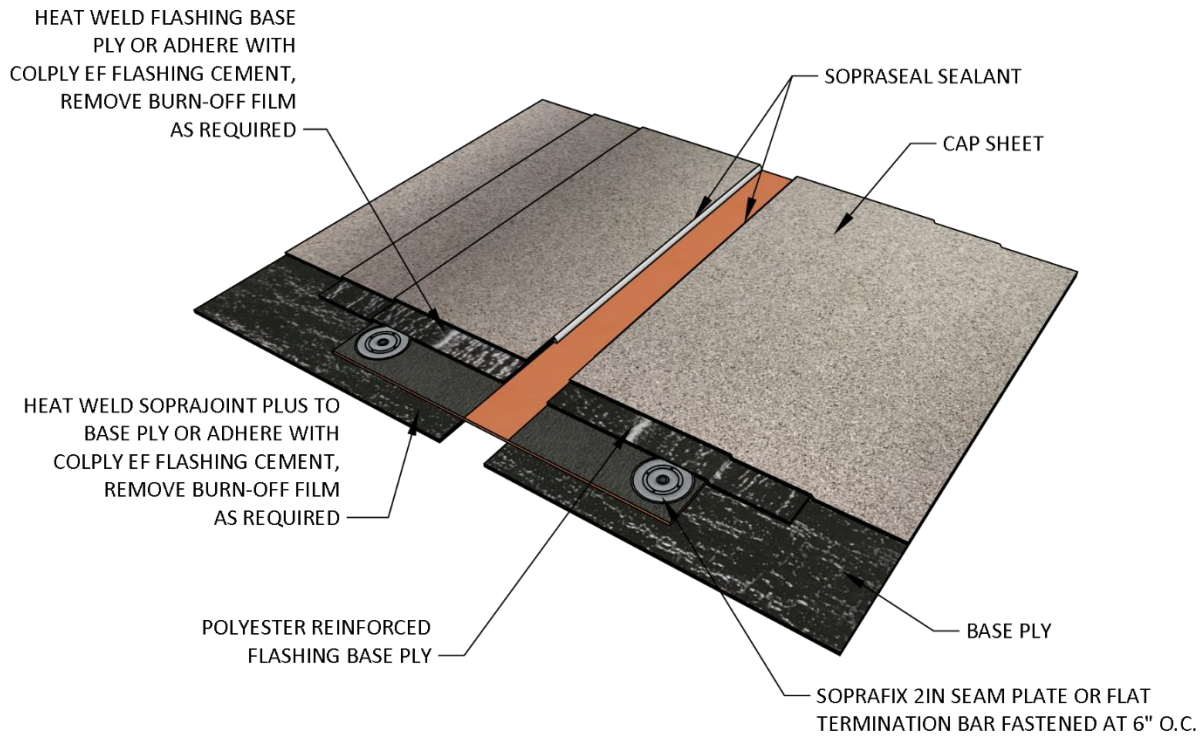

Figure 5.4a SOPRAJOINT® PLUS Field Expansion Joint On Heat-Welded SBS Base Ply Surface
- SOPREMA® SOPRAJOINT® PLUS is an EPDM-based synthetic rubber, monolithic expansion joint used for low profile expansion joint applications. Refer to Figures 5.4a through 5.4d.
- Refer to detail drawings for SOPRAJOINT® PLUS installation and flashing guidelines. See Figures 5.4a through 5.4d.
- Install fasteners as specified and shown on Figures Figures 5.4a through 5.4d.